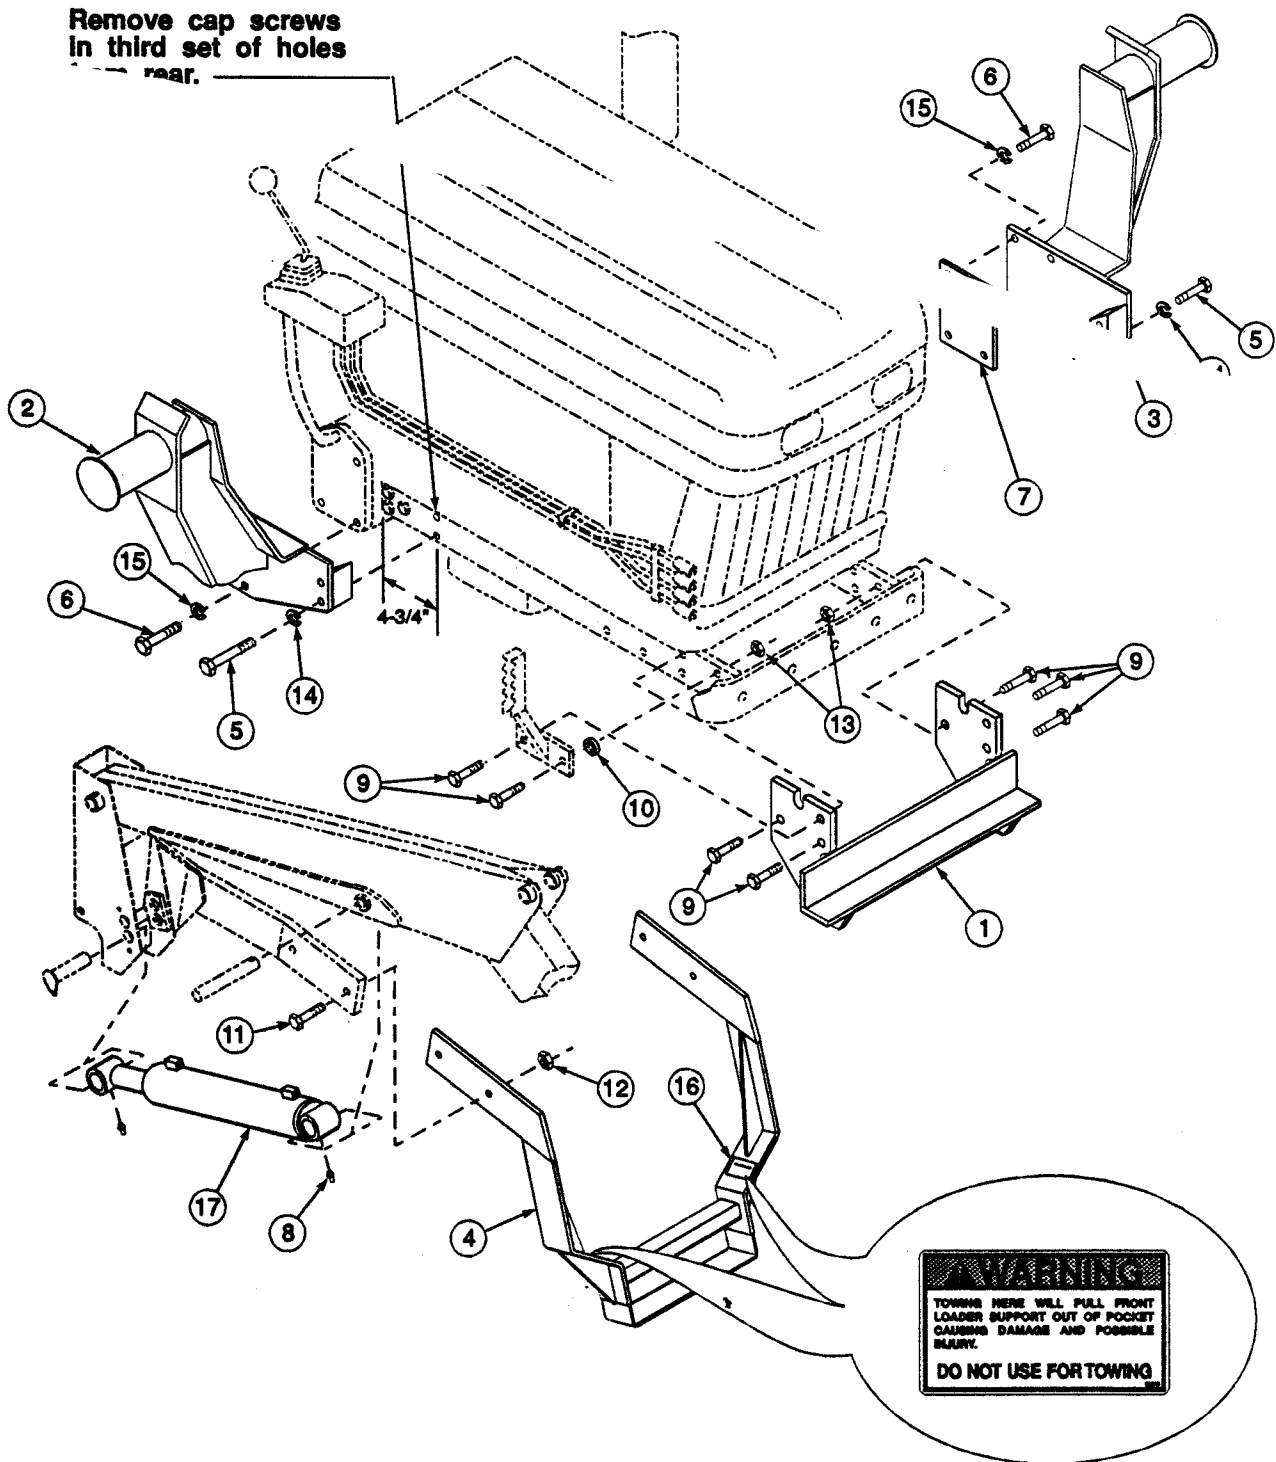

Figure 1
#### INSTALLING MOUNTING BRACKETS (Figure 1)
2. Install front mounting bracket (1), front spacer (10) and front coupler bracket to tractor frame using 1/2 x 2-1/2 cap screws (9) and 1/2 lock nuts (13).
3. Remove four 16MM cap screws securing valve bracket to mounting pad on right side of tractor. Remove two 14MM cap screws located 4-3/4" (121MM) from rear of tractor frame (Figure 1).
4. With valve bracket sandwiched in between, fasten right mid mounting bracket (2) to tractor casting using 16MM x 50MM cap screws (6) and 5/8 lock washers (15) in rear four holes and 14MM x 110MM cap screws (5) and 9/16 lock washers (14) in front two holes.
5. Fasten left mid mounting bracket (3) and spacer plate (7) to tractor casting using 16MM x 45MM cap screws (6) and 5/8 lock washers (15) in rear four holes and 14MM x 110MM cap screws (5) and 9/16 lock washers (14) in front two holes.